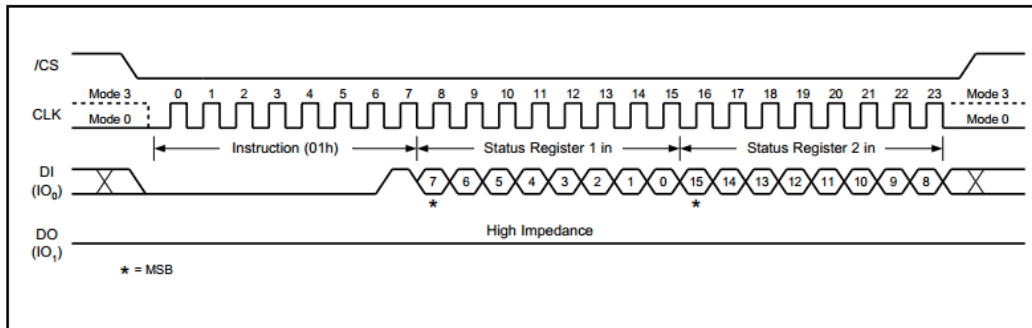
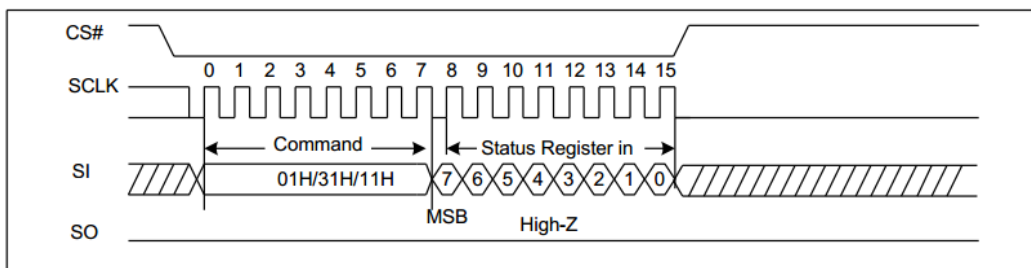

Fig 15-4 Write Status Register 1 & 2 sequence (FlashClass1, FlashClass2 when density < 2M)
Fig 15-5 Write Status Register 1/2 sequence (FlashClass2 when density > 2MB)
- For FlashClass1, the Write Status Register 2 is written together with the Write Status Register 1 using 0x01, as Fig 15-4 shows.
- For FlashClass2, when GD density is less than 2MB, the Write Status Register 2 is written together with the Write Status Register 1 using 0x01, as Fig 15-4 shows. When GD density is larger than 2MB, the Write Status Register 2 is written individually using 0x31, as Fig 15-5 shows.